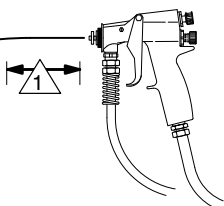

Fig. 6 02106
1. With the system primed and the gun air regulator closed (36), trigger the gun and adjust the pressure pot air regulator (33). If available, use the pressure setting provided by your fluid supplier. Otherwise, use the following instructions to determine the fluid pressure.
To determine the fluid pressure setting, hold the gun parallel to the floor. (Be sure to catch the fluid in a container.) With the gun air pressure turned OFF, trigger the gun. Adjust the pressure pot regulator (33) until the straight fluid stream is within the range indicated for the viscosity of your fluid before it drops off, but do not exceed 15 psi (1.05 bar) to maintain HVLP compliance. That is your optimal pressure pot air pressure. See Fig. 6.